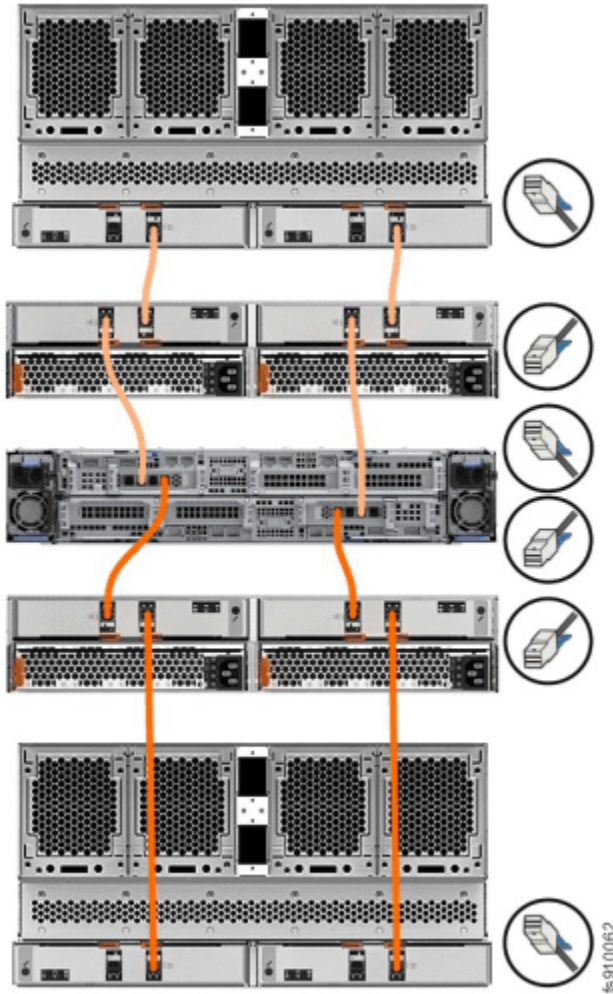

Figure 142. Connecting the SAS cables
- Storwize V7000 2076-724 systems support 4-port SAS interface adapters. However, only ports 1 and 3 are used for SAS connections, as Figure 142 on page 127 shows.
- No more than ten 2U expansion enclosures can be chained to SAS port 1 of a node canister. The expansion enclosures in this chain should be installed below the control enclosure, as shown in Figure 142 on page 127.
- No more than ten 2U expansion enclosures can be chained to SAS port 3 of a node canister. The expansion enclosures in this chain should be installed above the control enclosure, as shown in Figure 142 on page 127.